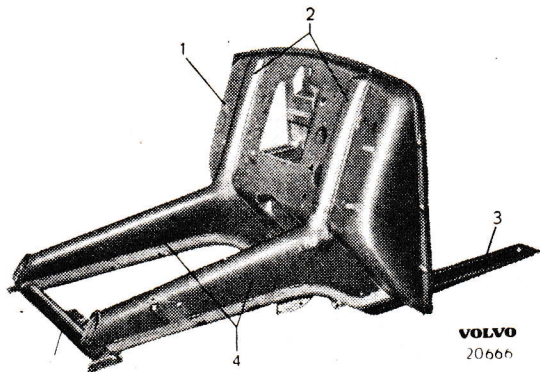

Fig. 4. Bulkhead.
The bulkhead (1, Fig. 4) forms the front wall of the body and is constructed as a sloping recessed partition. The bottom of this forms the toeplate and the sides form the forward section of the cowl. Two side members (4) extend forwards and are connected through a tubular cross member (5). To the rear, these side members divide and form reinforcement mem-